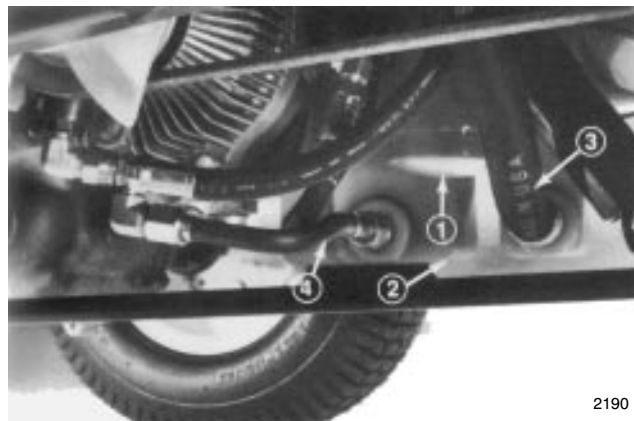

Figure 33
2. Clean the area around the hydraulic oil filter and remove the filter from the bottom of the filter housing. use bottom type filter wrench (Fig. 33).
3. Disconnect tube assembly and hose assembly from reservoir and allow the oil to flow into a drain pan (Fig. 33).
4. Install the new hydraulic filter onto bottom of the filter housing (Fig. 33).
5. Install the tube assembly and hose assembly to reservoir (Fig. 33).
1. Remove hydraulic oil filter from mounting head. Use bottom type filter wrench (Fig. 33). Dispose of filter properly.